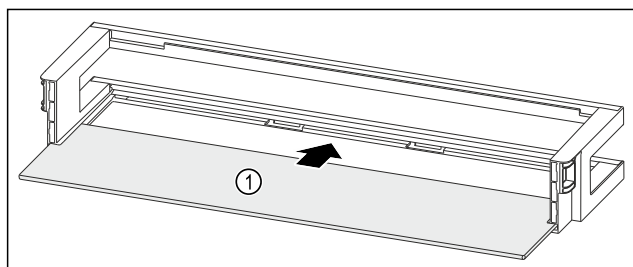

Fig. 96 Door rack with shelf
- Push the shelf Fig. 96 (1) into the side recesses.